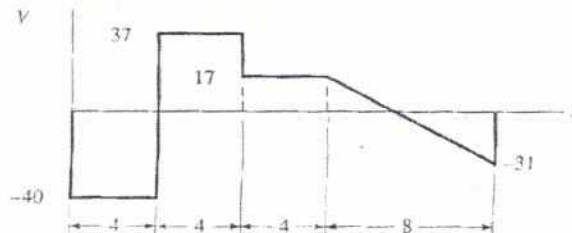

Fig. 2
- (b) A 10 mm diameter brass bolt ($E_{br} = 103$ GPa), is fitted inside a steel tube ($E_{st} = 200$ GPa) (10) with 22 mm outer diameter and 3 mm wall thickness. The length of the tube is 300 mm. The pitch of the bolt is 2.5 mm. After the nut has been fit snugly, it is tightened one quarter of the full turn. Determine normal stresses induced in the bolt and the tube due to tightening.
- Q2(a) The shear force diagram (SFD) for an overhanging beam is shown in Fig. 2. The beam (10) is supported at 4 m and 20 m from the left end. Draw loading and bending moment diagram (BMD) for the beam. The shear force is in kN and distances are in m.